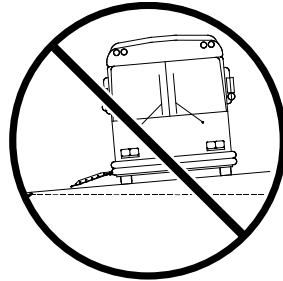

FIGURE 3-1: DO NOT USE RAMP WHEN VEHICLE IS PARKED ON SLOPED GROUND.
- Refer to **Figure 3-1**. Deploying ramp on sloped or steeply crowned roadways is hazardous. Slope may not exceed the requirements presented by ADA (Americans with Disabilities Act – Reference Section 810, Paragraph 2.4). Operate ramp with vehicle parked on level ground.